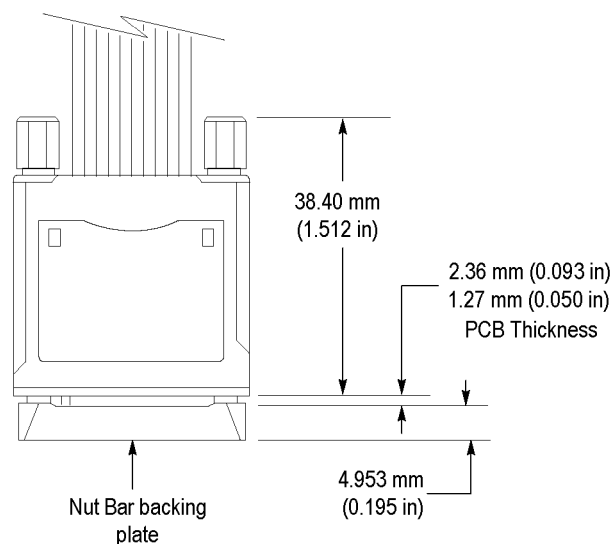

Figure 25: Nut Bar design
- Nut bar—If the PCB thickness is 1.27 mm to 2.36 mm (0.050 in to 0.093 in), use the nut bar with the thin elastomer. (See Figure 25.)